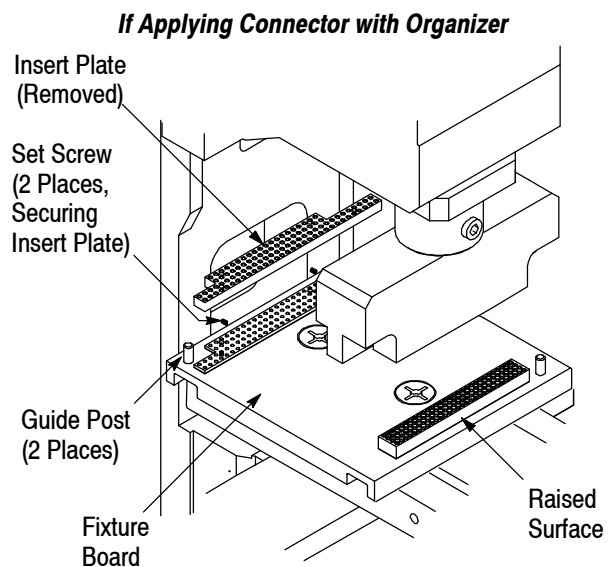

Figure 2
1. If applying connectors with organizers, loosen the set screws securing the insert plate, and remove the insert plate See Figure 2.
4. Place the pc board on the fixture board assembly, locating it using the two guide posts (shown in Figure 2).
- Added Figure 2 and Sections 5 and 6